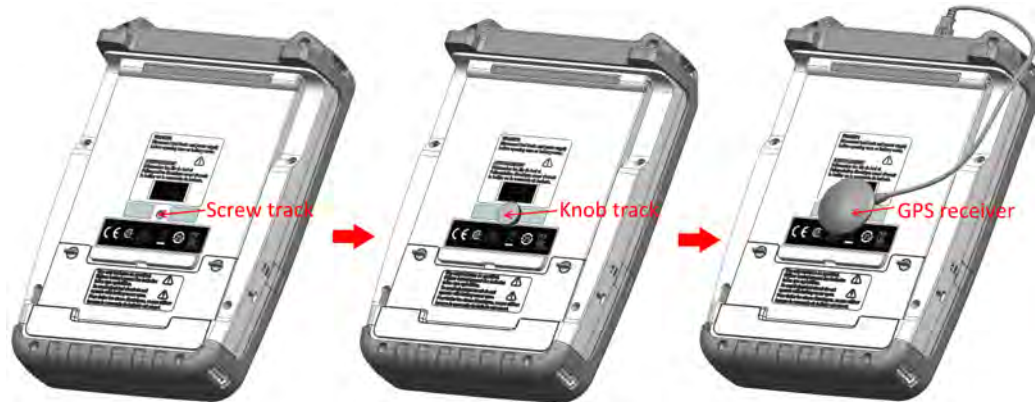

Figure 4-3: Location of GPS receiver
- The GPS receiver can be conveniently attached to the knob screw as shown in Figure 4-3.